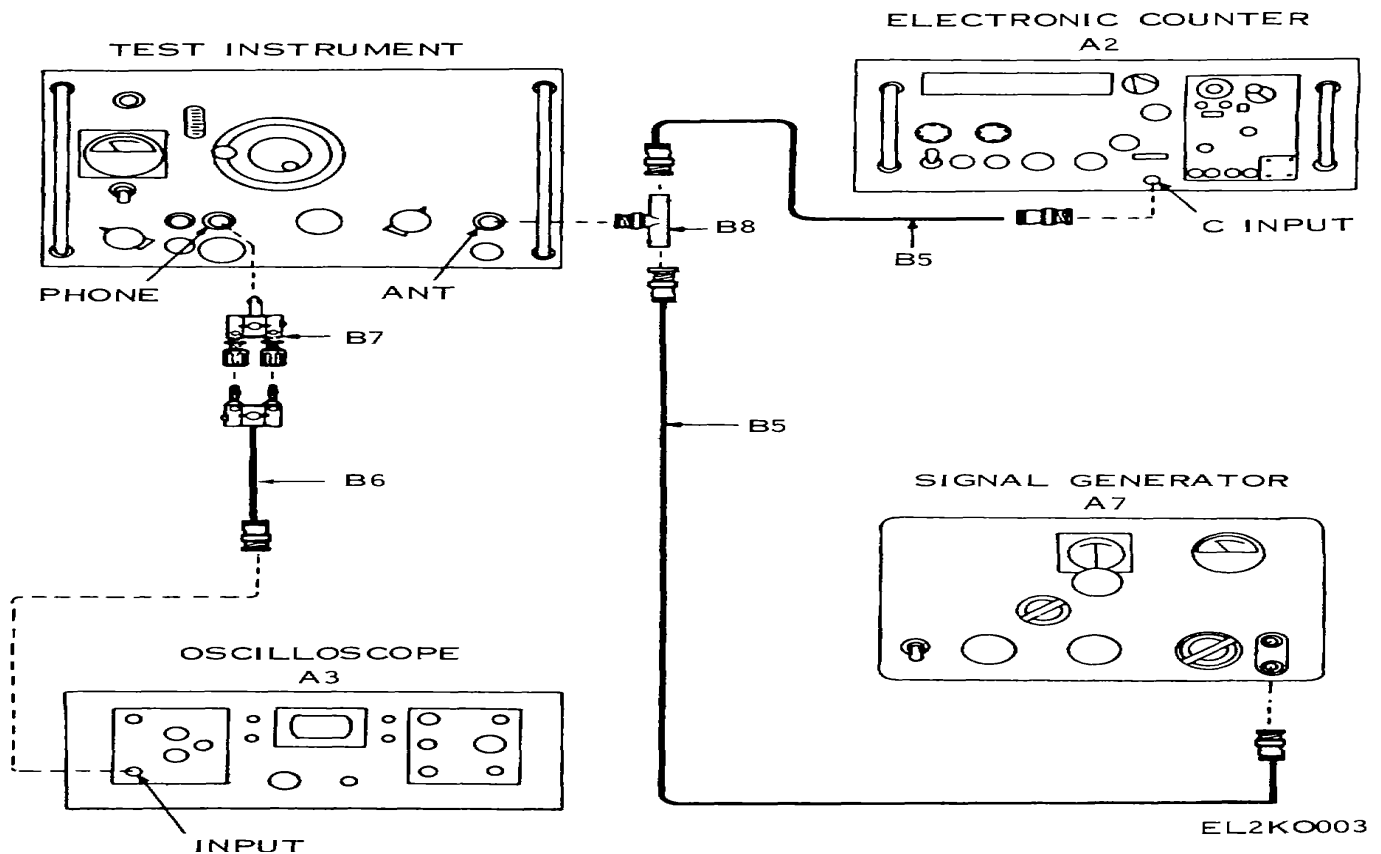

Figure 3. Variable frequency oscillator, equipment setup.
(1) Connect equipment as shown in figure 3
(2) Position TI controls as follows